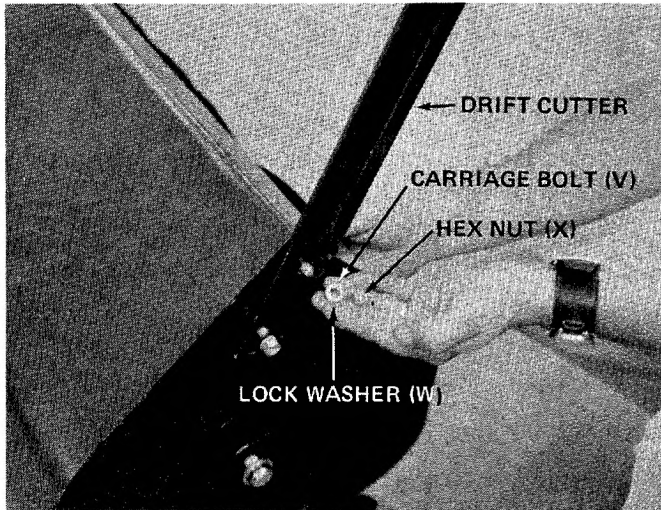

FIGURE 3
2. Assemble the drift cutters to each side of snow thrower housing. Place head of carriage bolt (V) to the inside of housing and fasten with lock washer (W) and hex nut (X). A 1/2" wrench is required. See figure 3.